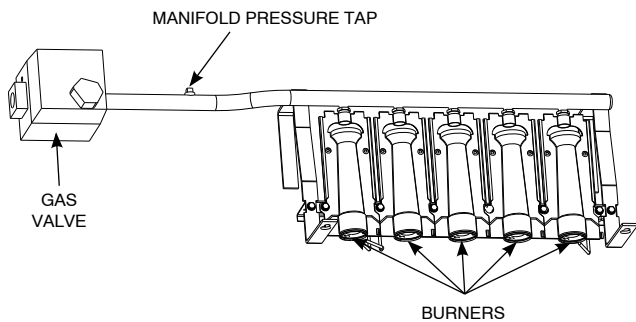

Fig. 34 – Burner Tray Details
8. Slide the burner tray out of the unit. (See Fig. 34.)
1. Remove manifold pressure tap plug from manifold and connect pressure gauge or manometer. (See Fig. 34.)
- Turn off unit, remove pressure manometer and replace the 1/8 in. pipe fitting on the gas manifold. (See Fig. 34.)